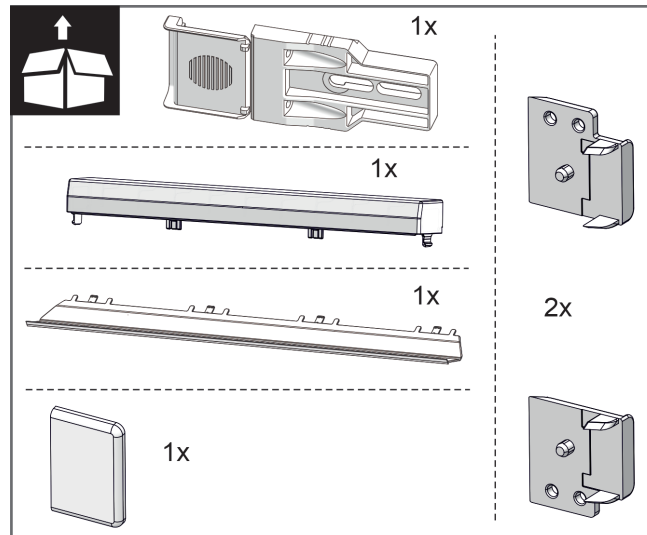
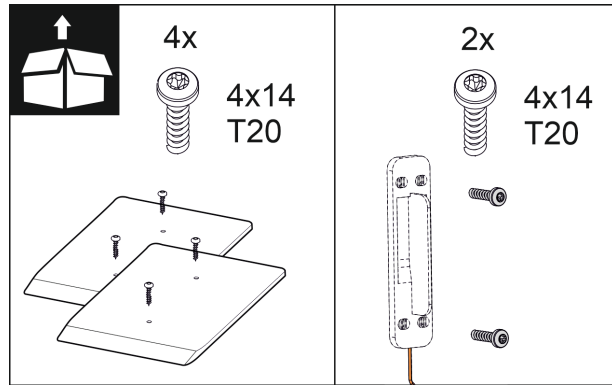

Fig. 9
Fig. 15
2. Check the assembly parts in the accessory kit. Fig. 9 () to Fig. 15 ()
Assembly parts in the accessory kit Fig. 9 () to Fig. 15 ()